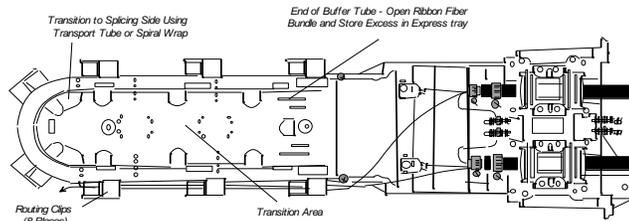

Figure 16a - Routing Express/Feeder Side Cables
15.01 Full Cut Cables (Loose tube and Ribbon) Express/Feeder cables or from Drop /Lateral cables can be safely routed into the flexible routing clips attached to the frame center section. It is recommended that the loose buffer tubes be routed directly into the rings while ribbon and bare fibers be transported out of the transition area. (It is not necessary to transport the loose tube bundles into the transition tubing. Refer to **Figures 16a and 16b**.